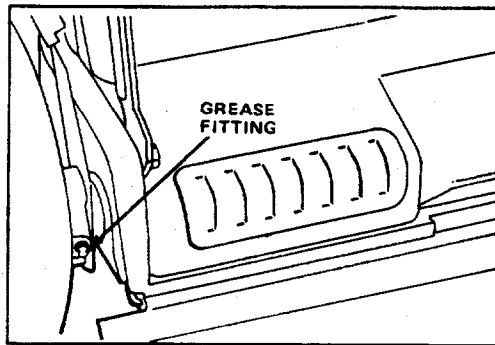

Figure 26
2. Move rear wheel height-of-cut levers to "C" setting. Wipe grease fittings with clean rag (Fig. 26). Install grease gun onto fitting and gently apply two or three pumps of #2 Multi-Purpose Lithium Base Grease.